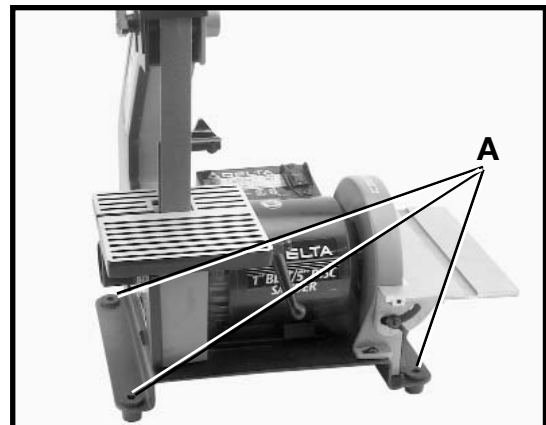

Fig. 11
**IMPORTANT:** If the machine has a tendency to tip over or to walk on the supporting surface, the machine must be secured. Use the four holes, three of which are shown at (A) fig. 11 to attach the machine to the supporting surface.